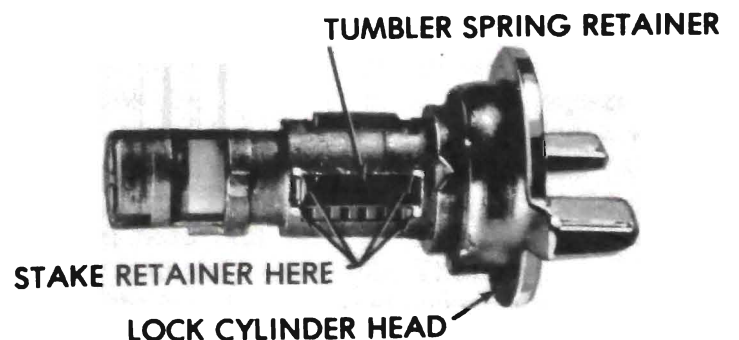

Figure 00-3 - Installing Spring Retainer
3. Reverse the lock cylinder so that the head of the cylinder is now toward you. Insert the spring retainer so that the two end prongs slide into the slots at either end of the cylinder. Press the retainer down. See Figure 00-3.